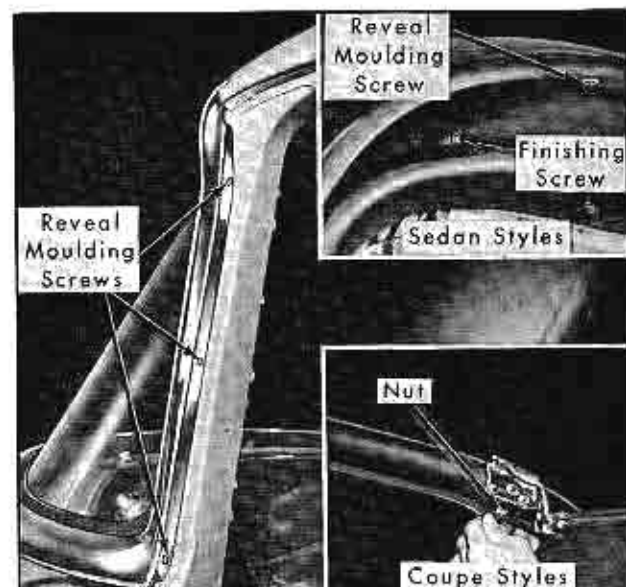

Fig. 3-10 Windshield Side Reveal Molding Removal
5. Remove three side reveal molding to vertical windshield pillar screws, Fig. 3-10.
sion, remove side reveal molding screw at windshield pillar and upper corner finishing molding screw and remove side reveal molding. Fig. 3-10.
7. On convertible and closed coupes, remove nut from under lip of rubber channel, Fig. 3-10, and remove windshield side reveal molding from body.